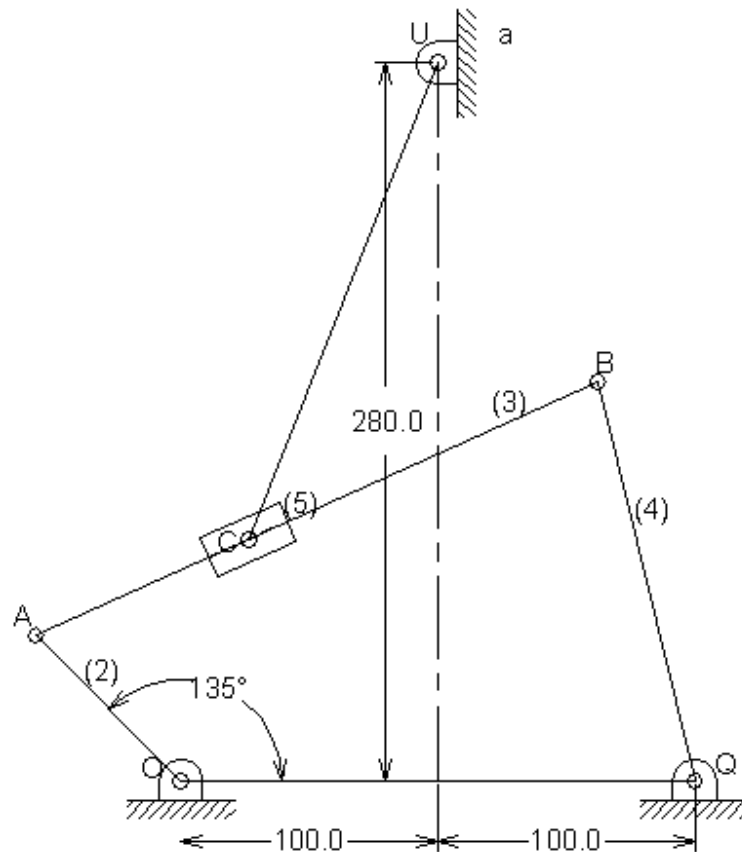

Figure P2.33
2.33 Block (5) is hinged at the end of link (6) and slides on link (3) of the four-bar mechanism as shown in Figure P2.33. If link (2) rotates clockwise at 200 rpm, determine the angular velocity and the angular acceleration of link (6). The crank angle is 135° .